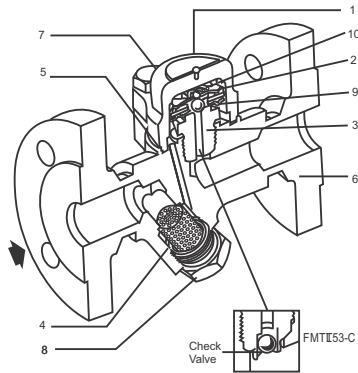

Figure 1: Forbes Marshall Tracer Line Trap with Integral Flange and Strainer
4.1. Operations of Forbes Marshall Tracer Line Trap [FMTLT53-Y]: [Refer figure 1]
7.4. Procedure to fit a new thermopod and seat: [Refer figure 1]
1. Remove the cover (1) from the body (6) by unscrewing the cover bolts (7).
2. Remove the thermopod assembly (2) and unscrew the valve seat (3) from the body (6).
3. Clean the thermopod assembly (2) and valve seat (3) if damaged replace with new thermopod assembly (2) and valve seat (3) and tighten valve seat (3) from the body (6) to the recommended torque as mention in Table 1.
4. Reassemble the spacer plate (9), thermopod (2) and spring (10).
5. Fit new cover gasket and retighten cover bolts (7) evenly to the recommended torque as mention in Table 1.
7.5. Procedure to clean or replace the strainer screen : [Refer figure 1]